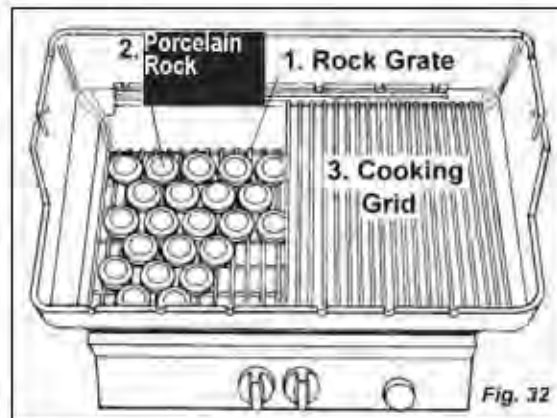

Fig. 32
Step 6: Grates, Briquettes and Cooking Grids (Fig. 32)
(See JNRWNK instructions on page 18, Fig. 32)